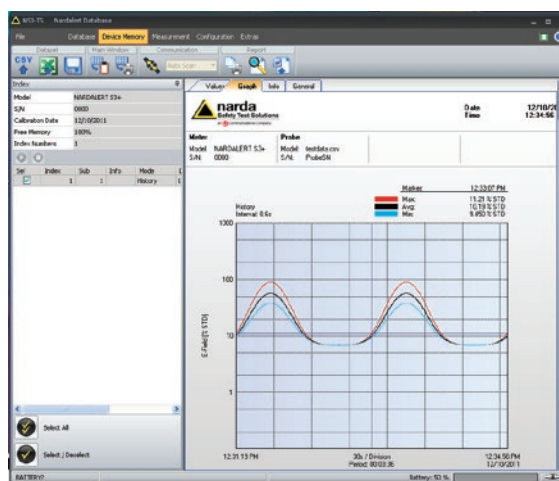

Figure 3
- 3. Device Memory** – Data management of readings stored on Nardalert (Figure 3)